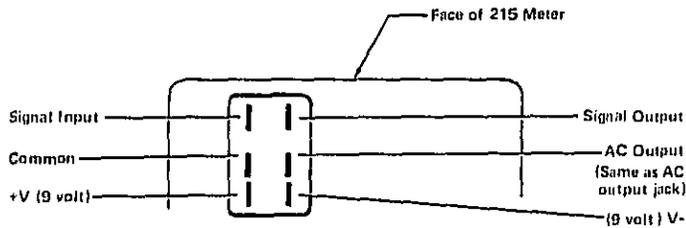

Figure 2. External Connector Pins
**External Connector** — A standard 6-pin Cinch-Jones type connector provides for connecting the meter to the Quest OB-45 Octave Band Filter and the PH-35 Peak Hold Module. The pins on this connector are identified in Figure 2.